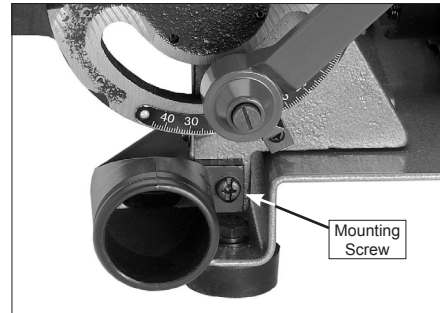

Fig.17
15. Secure the dust port, as shown in Figure 17, with the M6-1 x 15 Phillips head screw and flatwasher.